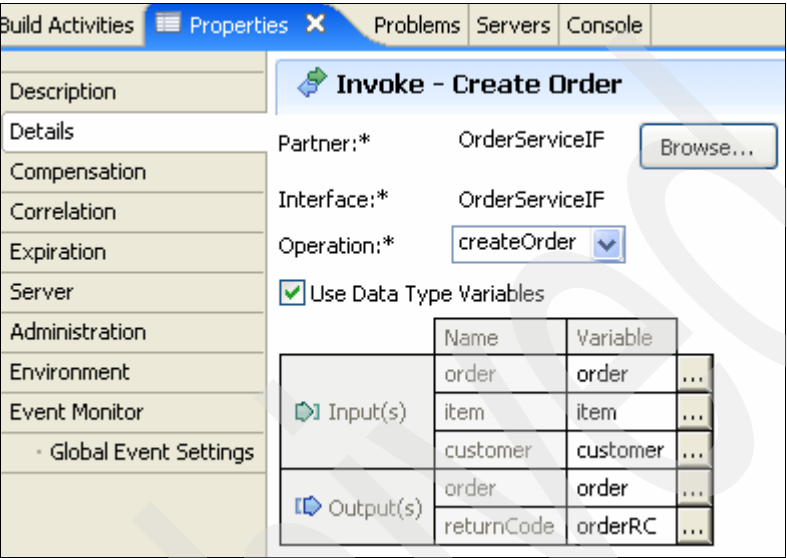

Figure 3-35 Create Order properties view
17. Add an Invoke activity below the **Set Order creation parameters** activity. Name the activity **Create Order** and set the properties as shown in Figure 3-35. This activity invokes the DBMSServiceMedation using the OrderServiceIF.